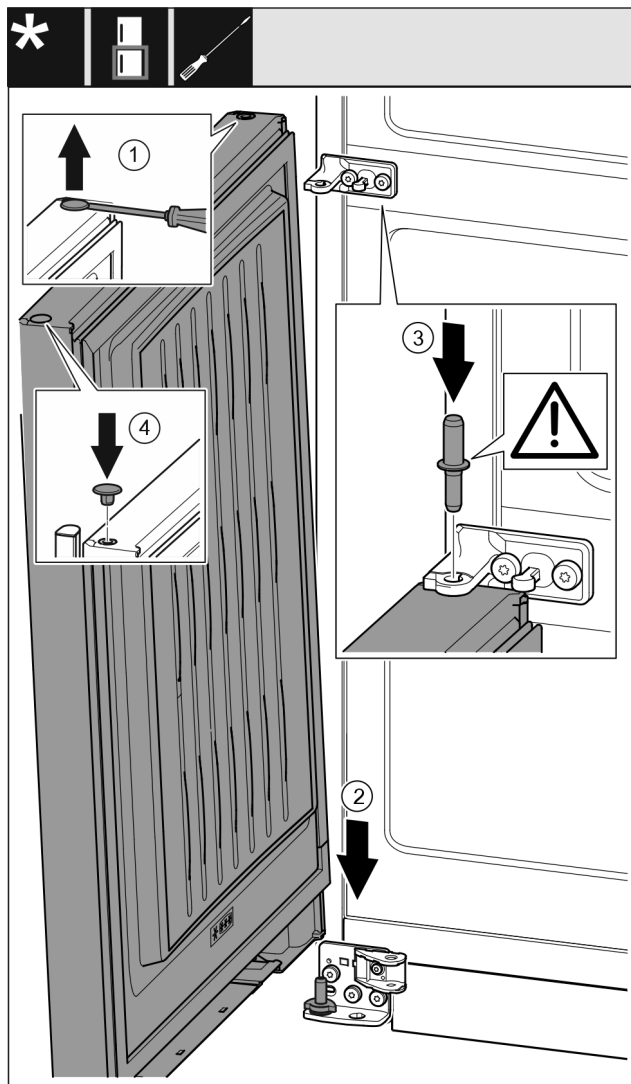

Fig. 44
- Use a slotted screwdriver to lift the plug Fig. 44 (1) carefully and pull it out.
- Lower the door Fig. 44 (2) onto the bottom bearing bolt.
- Insert the centre bearing bolt Fig. 44 (3) through the centre bearing block in the lower door. Ensure that the latching cam is pointing towards the rear.
- Re-insert the plug Fig. 44 (4) on the other door side.